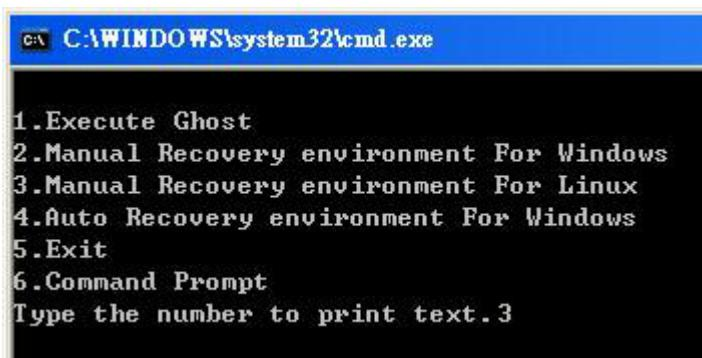

Figure B-23: Manual Recovery Environment for Linux
Step 4: Build the recovery partition. Press any key to boot from the recovery CD. It will take a while to launch the recovery tool. Please be patient. When the recovery tool setup menu appears, type <3> and press <Enter> (**Figure B-23**). The Symantec Ghost window appears and starts configuring the system to build a recovery partition. After completing the system configuration, press any key to reboot the system. Eject the recovery CD.